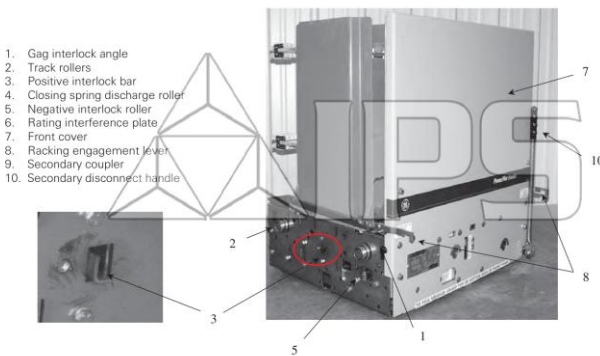

Figure 19 PowerVac® breaker left-front view
Use these figures to identify every item referenced in Steps 2–6. Printed legends appear within Figures 1, 3 and 19; the typed legend below Figures 19 & 20 lists shared items 1–10 (both views).
Interlocks & rollers — GEK-86132G Figures 19 & 20 (left-front & right-rear views)
GEK-86132G Figure 19 — Left-front view (legend items 1–10 in figure)